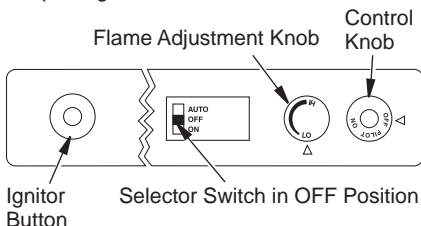

Figure 25 - Control Knob and Ignitor Button Location (Shown as Supplied, No Control Options)
4. Press in and turn control knob clockwise ↻ to the OFF position (see Figure 25).
5. Wait five (5) minutes to clear out any gas. Then smell for gas, including near the floor. If you smell gas, STOP! Follow "B" in the safety information, page 20. If you don't smell gas, go to the next step.
6. Press in and turn control knob counter-clockwise ↺ to the PILOT position. Press in control knob for five (5) seconds (see Figure 25).